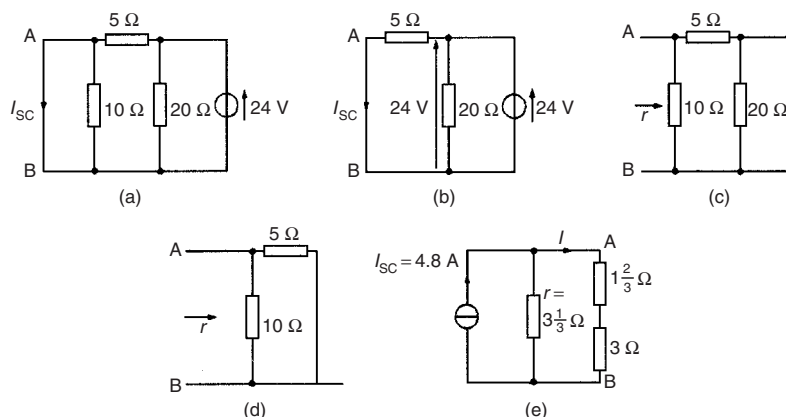

Figure 13.60
- (i) The branch containing the $3\ \Omega$ resistance is short-circuited as shown in Fig. 13.60(a)
- (ii) From the equivalent circuit shown in Fig. 13.60(b),
- (iii) If the $24\ \text{V}$ source of e.m.f. is removed the resistance 'looking-in' at a break made between A and B is obtained from Fig. 13.60(c) and its equivalent circuit shown in Fig. 13.60(d) and is given by:
- (iv) From the Norton equivalent network shown in Fig. 13.60(e) the current in the $3\ \Omega$ resistance is given by: